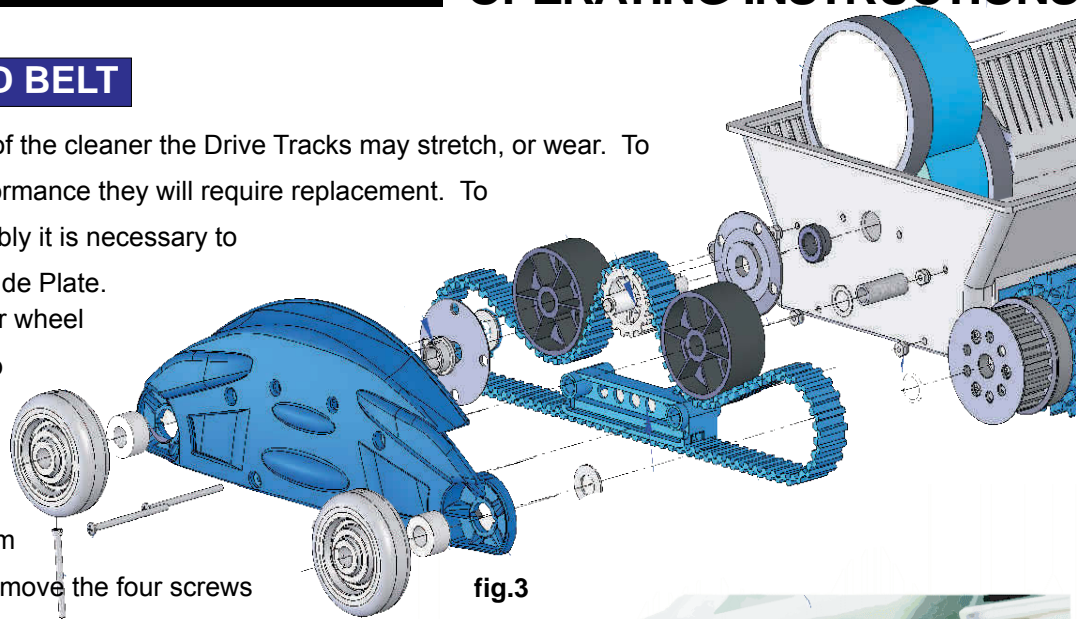
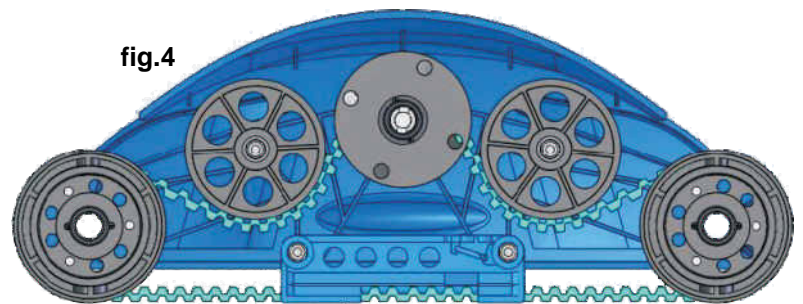

fig.3
fig.4
(1) Remove the Bumper wheel by removing the "C" clip and then the locking screw (FIG 3).
(2) Turn the cleaner upside down and remove the Bottom Lid Assembly. Locate and remove the four screws that hold the Side Plate to the main body. The Side plate is now free and ready to be removed.
(3) When the Side Plate is taken apart, you will notice 3 black bushings. It is a good idea to also replace these Bushings when the Drive Tracks are replaced.
(4) After the Drive Tracks and Bushings are replaced, reassemble the Side Plate as shown here. (FIG 4)